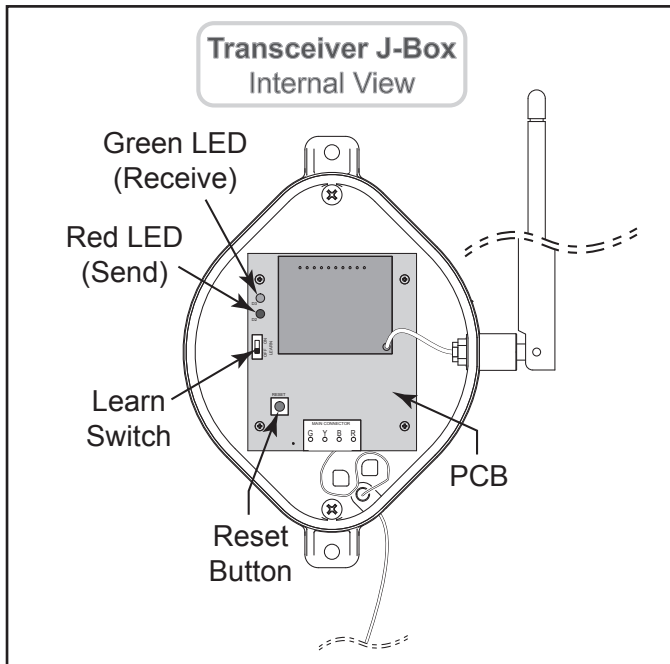

Figure 32. AquaLink Transceiver J-Box - Internal View
5. At the PCB in the Transceiver J-box, slide the Learn Switch to LEARN (ON). See Figure 32.
6. On the Handheld Remote display screen, a prompt will appear with instructions to slide the J-box Learn Switch out of LEARN (OFF) and to press the J-box Reset Switch (see Figure 32).